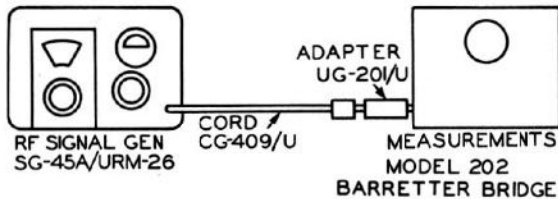

Figure 7-7. RF Signal Generator SG-45A/URM-26, Connections for Measuring Output Voltage
d. BARRETT BRIDGE METHOD: Connect signal generator to Measurements Corporation Model 202-B Barretter Bridge as shown in figure 7-7.
- (1) Set dial of Model 202-B at 50K.
- (2) Set MICROVOLTS dial of RF Signal Generator SG-45A/URM-26 at 50K, AMPLITUDE MODULATION switch at OFF and METER switch at OUTPUT.
(8) Replace and tighten one-inch nut.
(9) Replace roller O-113, and spring O-114, and attach the two screws to secure the spring.
(10) Check frequency range of repaired sub-assembly (see paragraphs 7-6 and 7-12).
(11) Check output voltage at .05 volt level using the set-up shown in figure 7-7. If, with output meter set to red line, the error in output voltage exceeds allowable tolerance, proceed as follows: